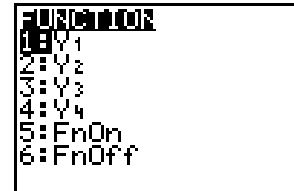

Figure 27
- Select option 1:Y1 from the FUNCTION menu (Figure 27).